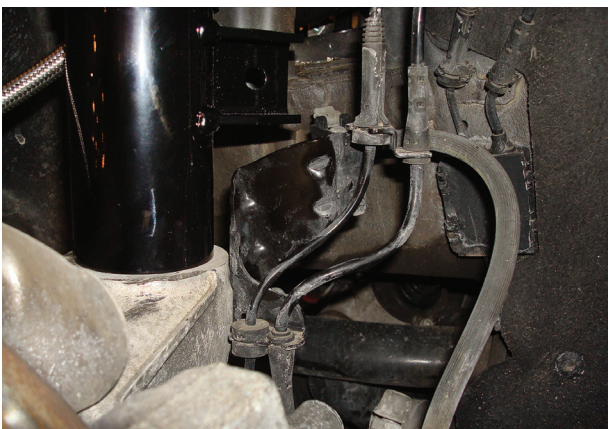

Fig. 23
5. Clip the brake line tab back into position on the knuckle. Insert the lower strut pinch bolt. Torque to 44Nm (32 lb.-ft.) + 90 degrees (Figs. 23 & 24).